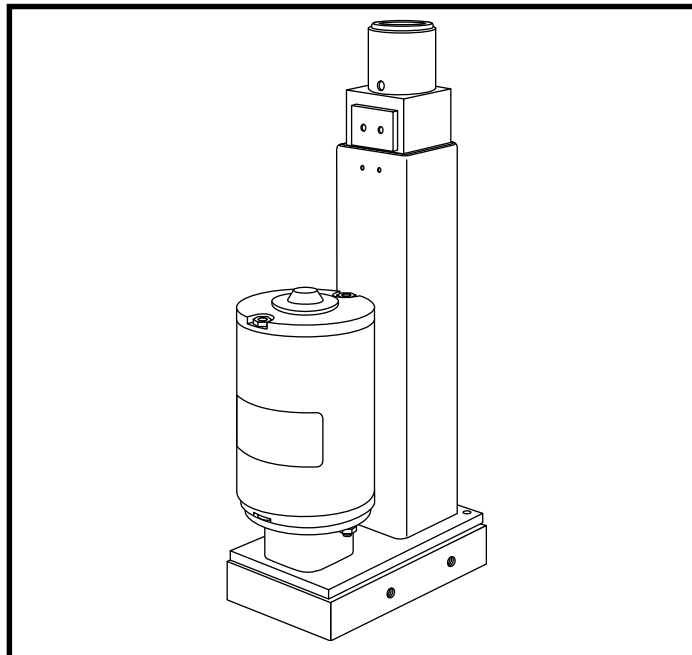

Figure 11. Power Elevating Seat Actuator
1. Align the seat post on the seat base to the hole in the actuator. See figure 11.